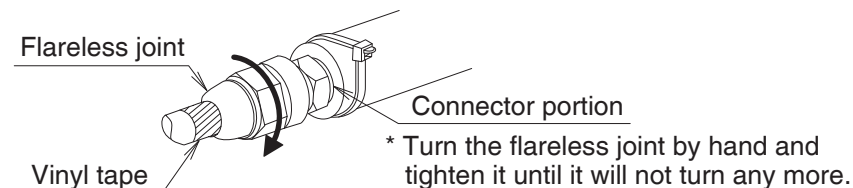
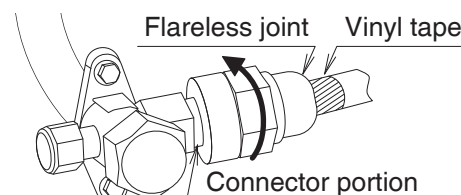

Fig. 7 Indoor unit connection example
Fig. 8 Outdoor unit connection example
- Turn the flareless joint by hand and tighten it until it will not turn any more. (See Fig. 7 and Fig. 8)